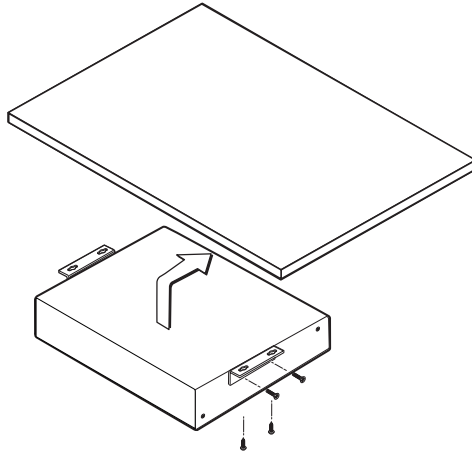

Figure 2-3 — Under-desk mounting the interface
2. Attach the mounting brackets to the interface with the machine screws provided (figure 2-3).
7. Slide the unit slightly in or out, then tighten all four screws to secure the unit in place (figure 2-3).